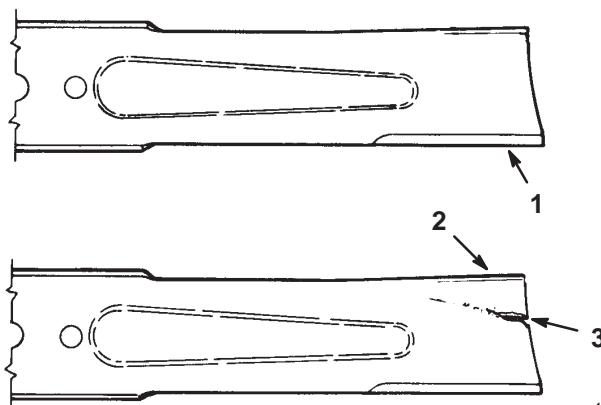

Figure 34
2. Inspect the cutting edges (Fig. 34). If the edges are not sharp or have nicks, remove the blade(s) and sharpen them; refer to Sharpening the Blade(s), page 30.
3. Inspect the blade(s), especially the curved area (Fig. 34). If you notice any damage, wear, or a slot forming in this area (Fig. 34), immediately install a new blade.